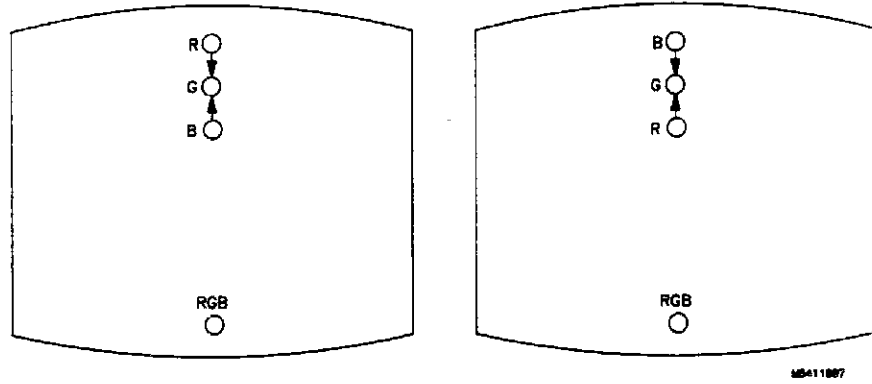

Figure 4-21. V.STAT TOP Adjustment.
4. Adjust V.STAT TOP (RV801) and V.STAT BOTTOM (RV802) on bottom PC board to obtain coincidence of red, blue, and green at intersection of top and bottom horizontal lines with center vertical line. See figures 4-21 and 4-22.